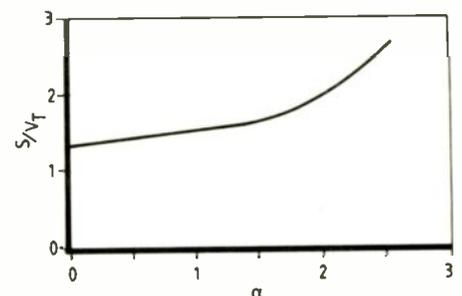

Fig.3. Variation of the third-order intercept with varying α .
A plot for (19) is shown in Fig.3, from which it is evident that, as α increases, the intercept level increases. Qualitatively, this result is in agreement with the observations of Irvine.